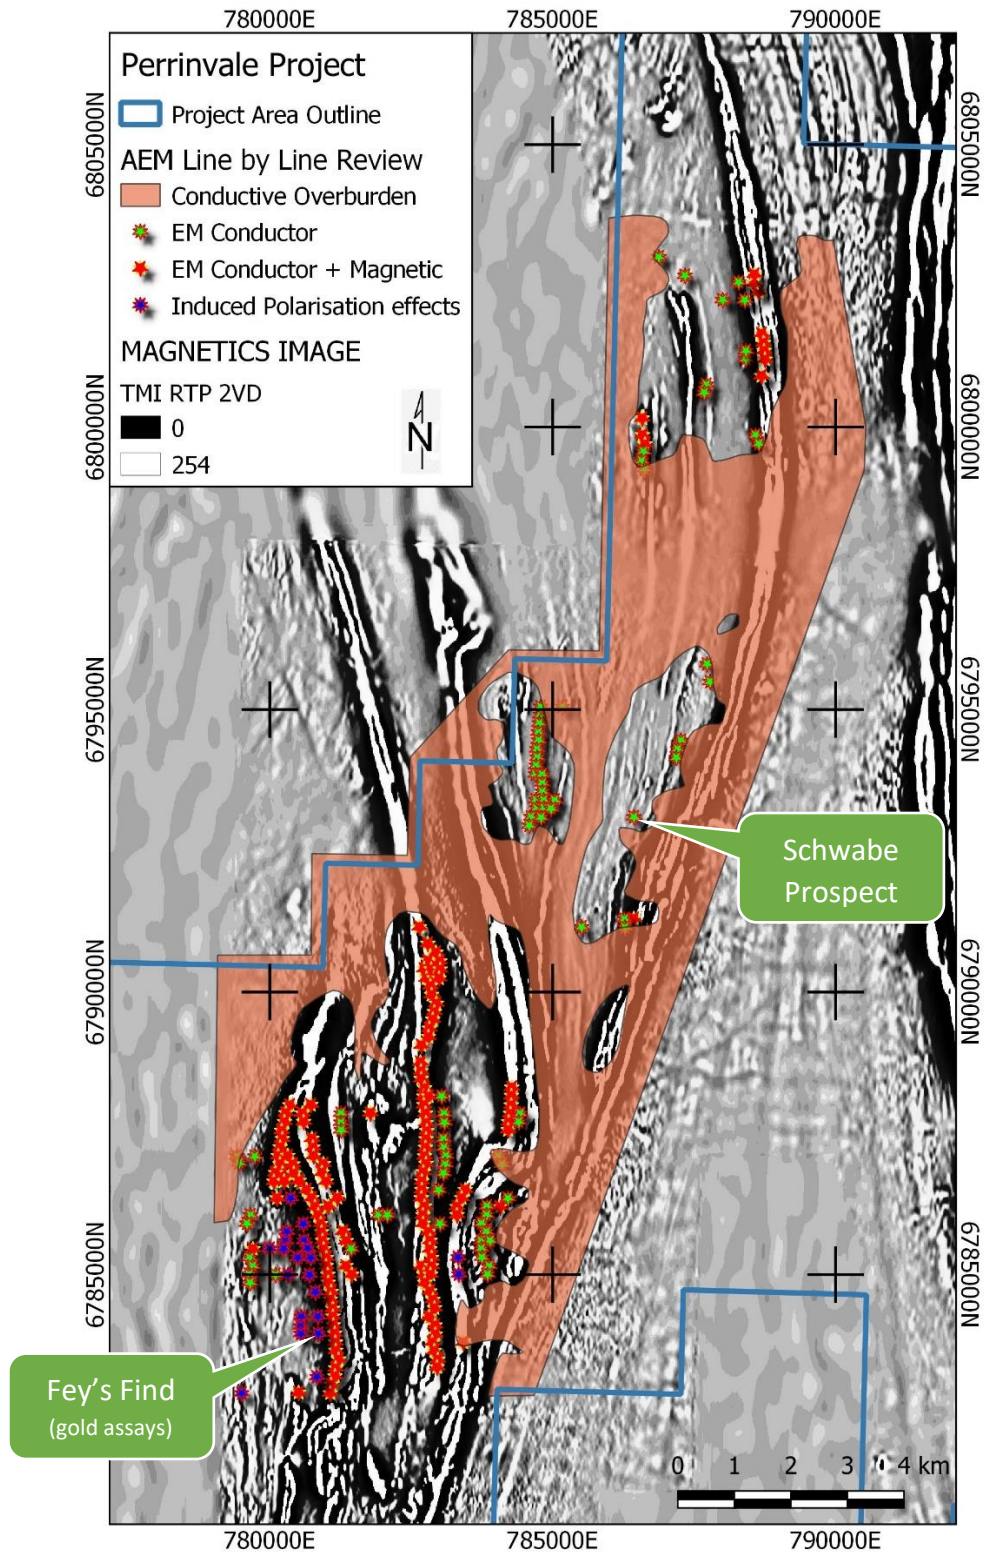

Figure 1. Airborne Electromagnetic survey Line by Line review points of interest on 2nd vertical derivative reduced to pole magnetics
A line-by-line review of the 2019 Airborne Electromagnetic (**AEM**) survey has been completed (refer **Figure 1**), which shows a mix of (86) purely conductive conductors (such as Schwabe), as well as (143) conductors that are proximal to / associated with a magnetic response. These conductors proximal to magnetic responses represent areas to be assessed for massive sulphide mineralisation associated with BIF.